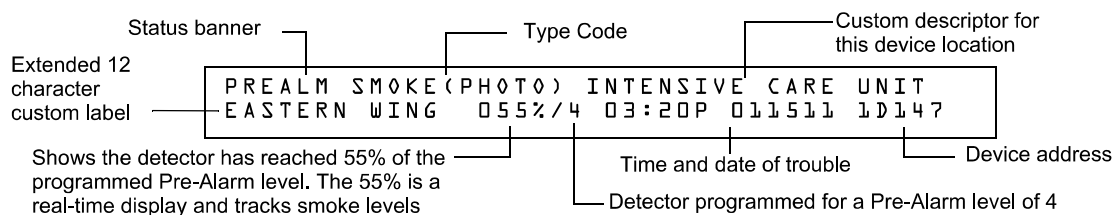

Figure 3.11 Sample of an Alert Pre-Alarm Message
- Displays a pre alarm status banner, the Type Code of the detector, and the Pre-Alarm level (Alert or Action) on the LCD display, along with information specific to the device as shown in Figure 3.11.